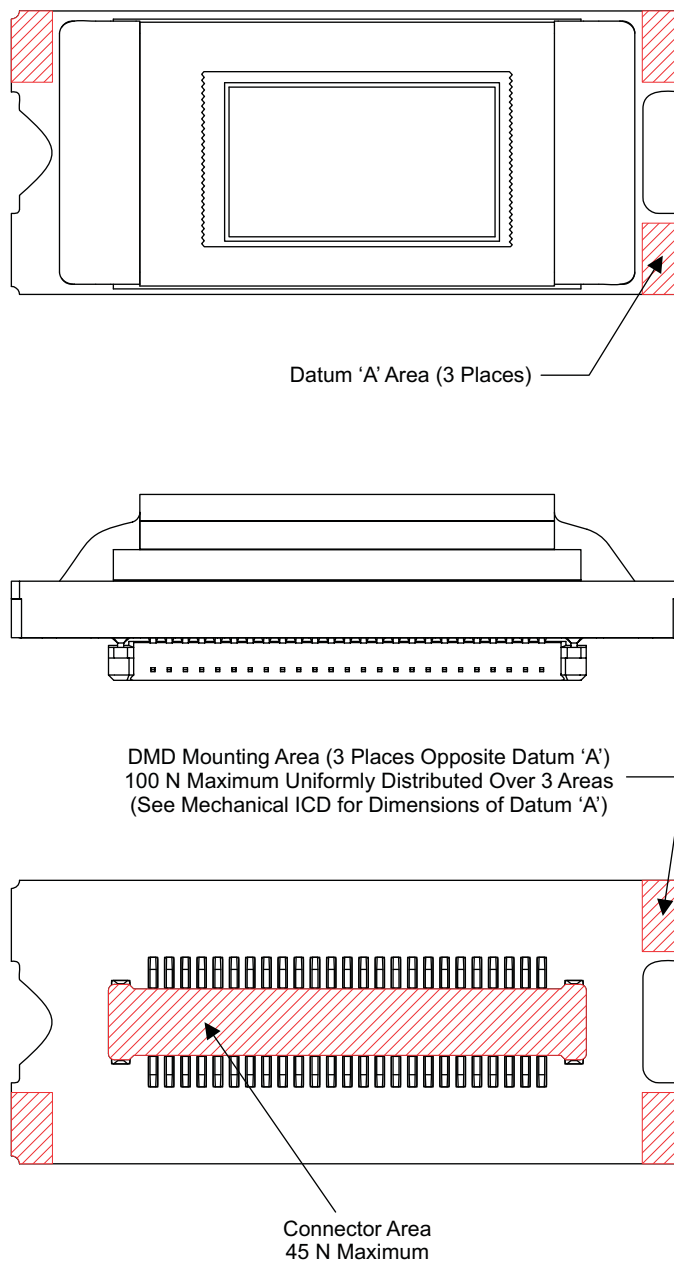

Figure 8. System Interface Loads
- (1) All voltages referenced to V_{SS} (ground)
- (2) Voltages V_{CC}, V_{REF}, V_{OFFSET}, V_{BIAS}, V_{RESET} are required for proper DMD operation.
- (3) Exceeding the recommended voltage difference between V_{BIAS} and V_{OFFSET} may result in excessive current draw. See the Absolute Maximum Ratings for further details.
- (4) Load should be uniformly distributed across the entire connector area.
- (5) See Figure 8.
- (6) Load should be uniformly distributed across the three datum-A surfaces.
- (7) Optimal, long-term performance of the Digital Micromirror Device (DMD) can be affected by various application parameters, including illumination spectrum, illumination power density, micromirror landed duty cycle, ambient temperature (both storage and operating), case temperature, ambient humidity (both storage and operating), and power on/off duty cycle. TI recommends that application-specific effects be considered as early as possible in the design cycle. Contact your local Texas Instruments representative for additional information related to optimizing the DMD performance.